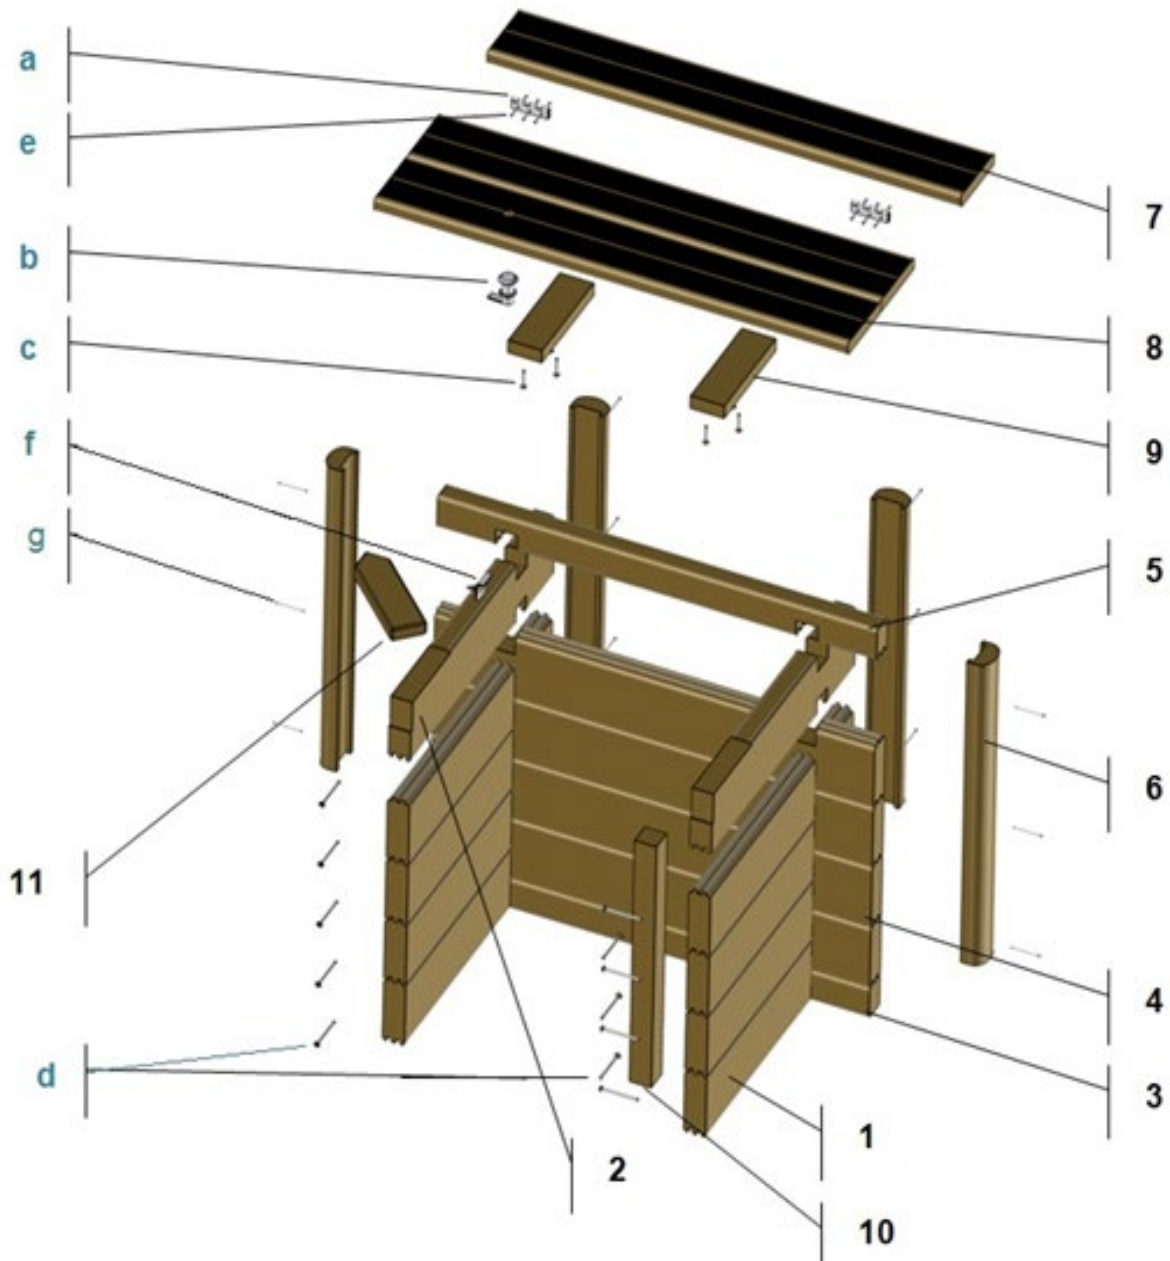
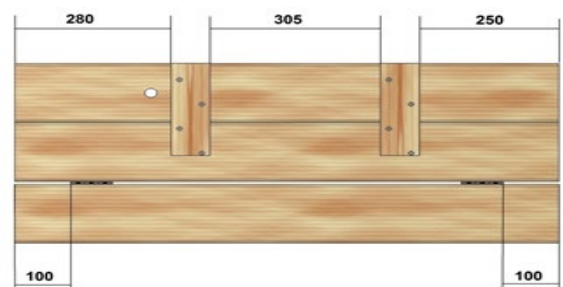

Figure 59 – Cover pit exploded view
Figure 66 – Assembly of the duckboarding
To finish, fasten the 45 × 45 mm cleat (part no.10 in *Figure 59*) in position using 4 countersunk torx screws 5 × 80 threaded over 50 mm (d). This cleat should be flush with the end of the cover pit slats.
The corner part delivered with the wooden pack of your Urban pool is rectangular. After installing the coping on your cover pit, a triangular space will be left empty. To avoid this situation, swap this part for the part with the pointed end enclosed with the cover pit (part no. 11 in Figure 59).
- Fasten the cleat (part no.10 in Figure 59) to the pool wooden slats using three countersunk Torx screws 5 × 80 threaded over 50 mm (d);
Using 3 countersunk screws 4 × 35 per hinge, mount the two hinges on the edge of a duckboarding coping module 97.5 cm long (part no.7 in Figure 59) at the positions indicated in Figure 66.
Join the two remaining 97.5 cm coping modules (one of which has been drilled to hold the lock) together with cleats attached from below. Use two countersunk 5 × 40 torx screws, threaded over 25 mm per cleat and per slat, that is a total of 8 screws (c), paying attention to the location of the lock housing and the dimensions shown in Figure 66, and leaving a gap of 2 mm between the two copings.
The hatch locking mechanism is comprised of a lock barrel, a lock cam to fitted to the end of the lock barrel, and a strike plate to be fitted to the cover pit slat machined to hold the lock (part no. 2 in *Figure 59*).